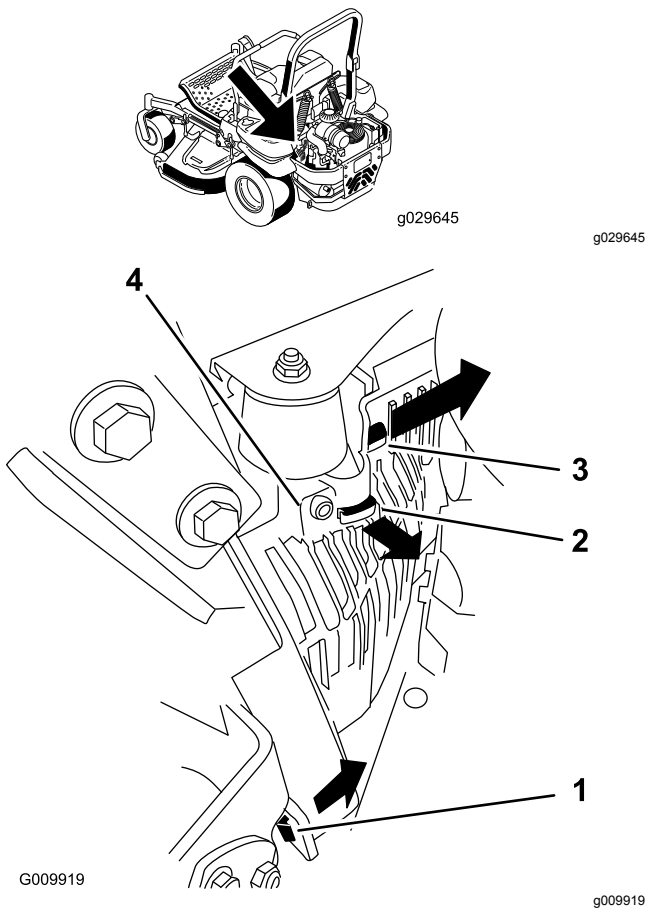

Figure 53
3. Remove the left hydraulic-unit shroud in the order listed with Figure 53. This gives you access to the front spark plug.
5. Install the left hydraulic-unit shroud (Figure 53).